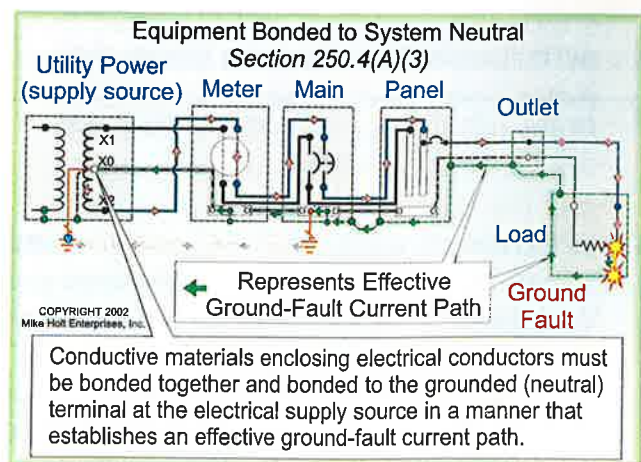

Figure 250-26
(3) Bonding of Electrical Equipment. To remove dangerous voltage caused by ground faults, the metal parts of electrical raceways, cables, enclosures or equipment shall be bonded together. In addition, the metal parts shall be bonded to the grounded (neutral) terminal of the electrical supply source in accordance with 250.142. **Figure 250-26**